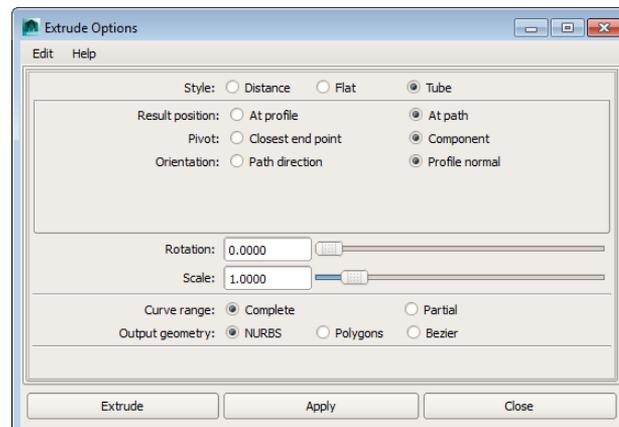

Figure 3-69 The *Extrude Options* dialog box
4. Make sure the circle is selected and then select the arc by using the SHIFT key. Next, choose **Surfaces > Extrude > Option Box** from the menubar; the **Extrude Options** dialog box is displayed. In this dialog box, set the parameters, as shown in Figure 3-69. Next, choose the **Apply** button and then the **Close** button; the circle is extruded along the arc.